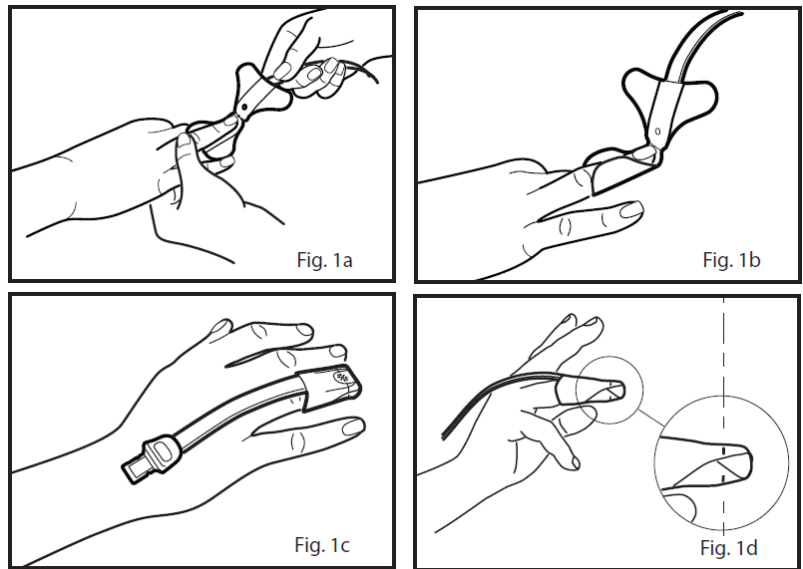

Fig. 20 RD SET Sensor Application for Pediatrics 10-50 kg
- 2 See Fig. 1a in Fig. 20: Orient the sensor so that the detector can be placed first. Place the tip of the finger on the dashed line with the fleshy part of the finger covering the finger outline and detector window.
- 3 See Fig. 1b in Fig. 20: Press the adhesive wings, one at a time, onto the finger. Complete coverage of the detector window is needed to ensure accurate data.
- 4 See Fig. 1c in Fig. 20: Fold the sensor over the finger with the emitter window (red star) positioned over the fingernail. Secure the wings down, one at a time, around the finger.
- 5 See Fig. 1d in Fig. 20: When properly applied, the emitter and detector should be vertically aligned (the black lines should align). Reposition if necessary.